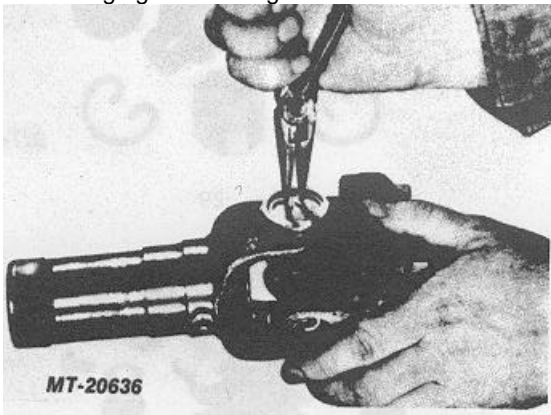

Fig. 24
1. **SNAP RING** Remove by pinching the ends together with a pair of pliers. If a ring does not readily snap out of the groove in the yoke, tap the end of the bearing cap lightly to relieve the pressure against the ring (Fig. 24).